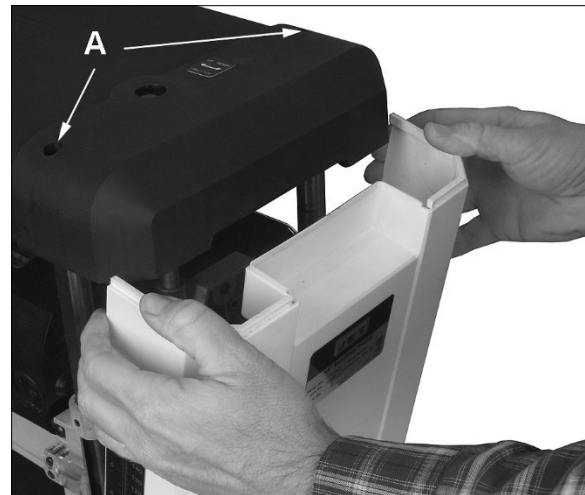

Figure 10-4: removing side cover
3. Unscrew the two screws on the right side of the top plate (A, Figure 10-4) with a 5mm hex wrench; a T-handle wrench is preferred for this. The screws do not need to be removed, only released from the tops of the columns.
5. Remove side panel (refer to Figure 10-4).